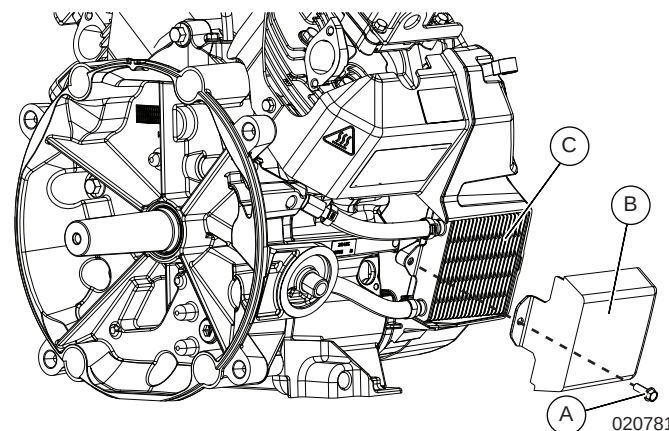

Figure 6-19. Remove Oil Cooler Screw and Cover
1. See Figure 6-19. Remove screw (A) fastening oil cooler cover (B) and oil cooler (C) to blower housing.